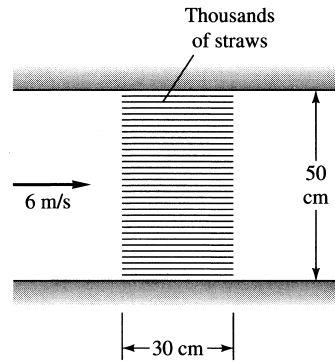

Fig. P6.28
6.28 For straightening and smoothing an airflow in a 50-cm-diameter duct, the duct is packed with a “honeycomb” of thin straws of length 30 cm and diameter 4 mm, as in Fig. P6.28. The inlet flow is air at 110 kPa and 20°C, moving at an average velocity of 6 m/s. Estimate the pressure drop across the honeycomb.